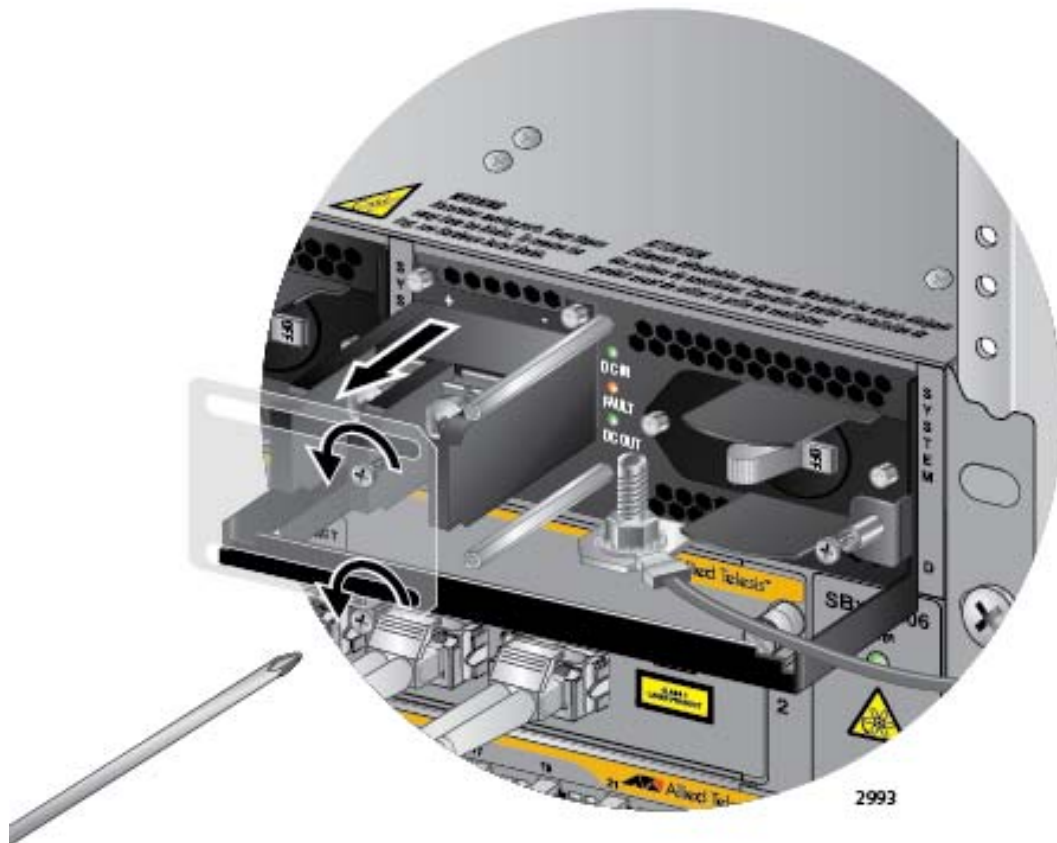

Figure 142. Removing the Plastic Cover
- Using a #1 Phillips-head screwdriver, remove the two screws that secure the plastic cover over the positive and negative terminals and remove the plastic cover from the power supply, as shown in Figure 142. You may need to lift the locking handle slightly to access the bottom screw.